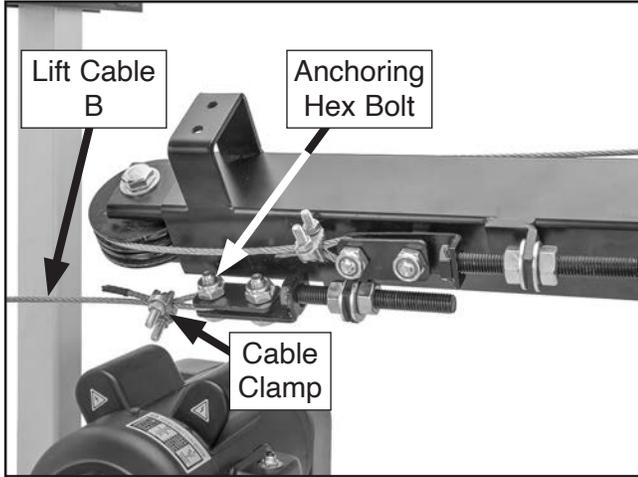

Figure 39. First end of lift cable B secured (switch panel removed for clarity).
37. Loop end of lift cable B around anchoring hex bolt, as shown in **Figure 39**, and secure with (1) cable clamp.